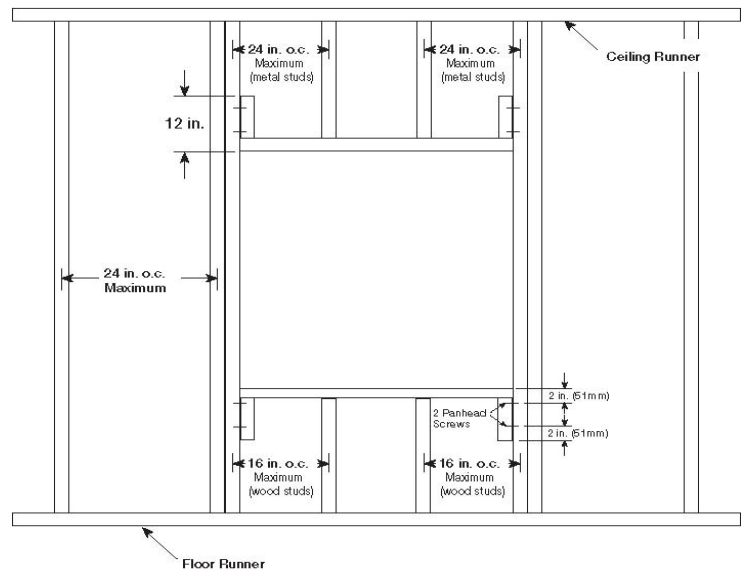

Figure 2
- Frame wall openings as shown in figure 2.